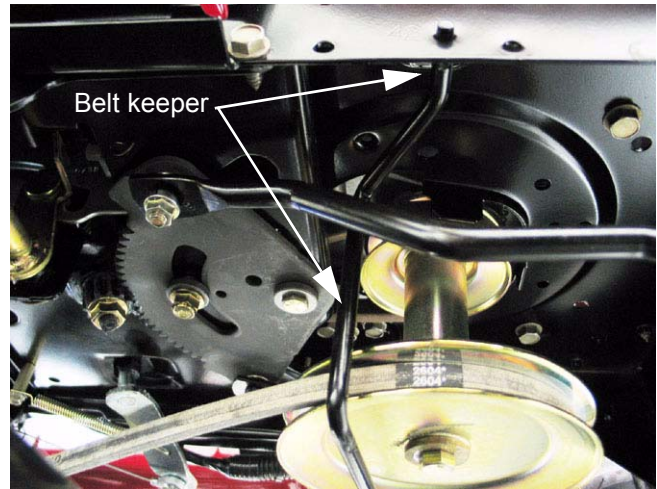

Figure 2.8
- 2.8. The belt keeper for the crankshaft pulley can be removed by taking-out a single bolt. The keeper anchors to an opening in the frame on the right side. See Figure 2.8.